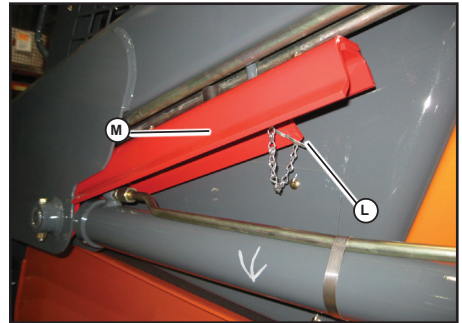

Fig. 28 - Lift Arm Support Device in Storage Position
- a. Remove retaining fastener (L, Fig. 28) securing lift arm support (M) in the storage position.